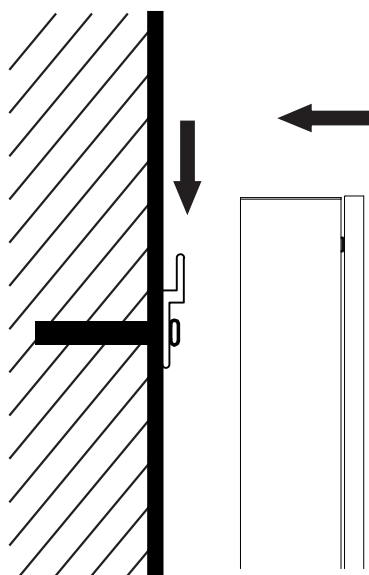

Fig. 5
2.2 Mount the mirror cabinet to the bar (Fig.5)